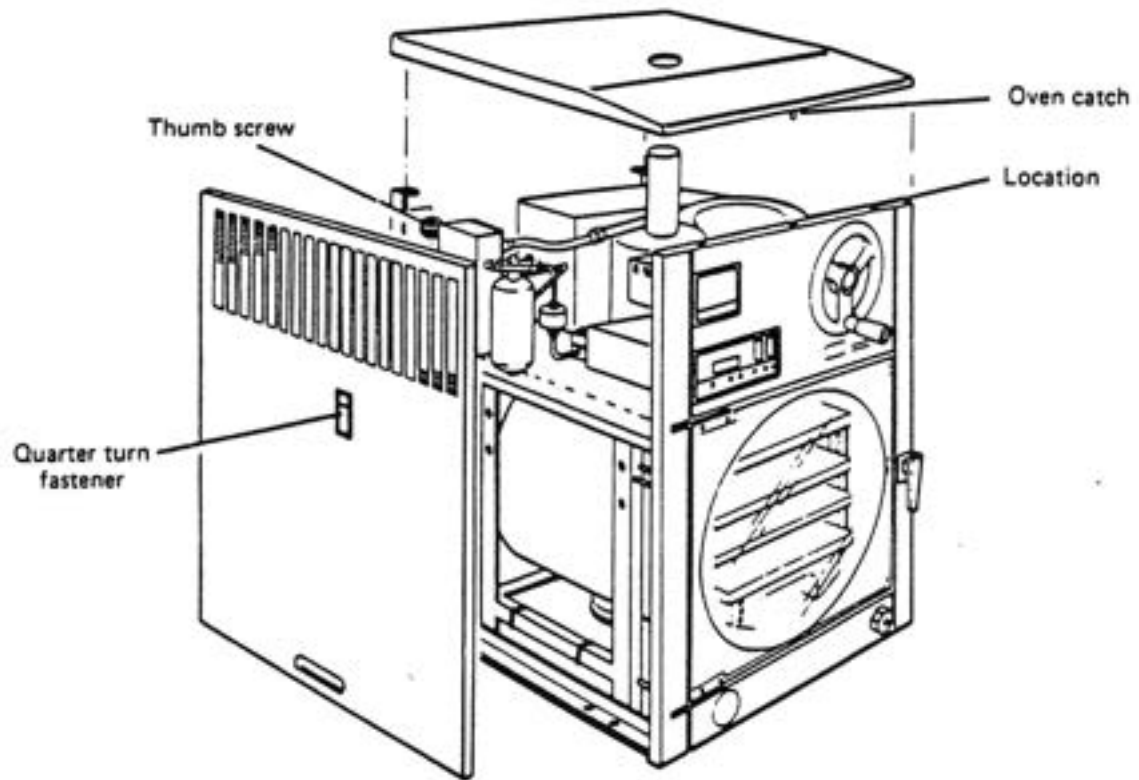

Fig.6 Removal of side and top panels
1. a) Remove the side and top covers from the RC3S unit. (See Fig. 6)